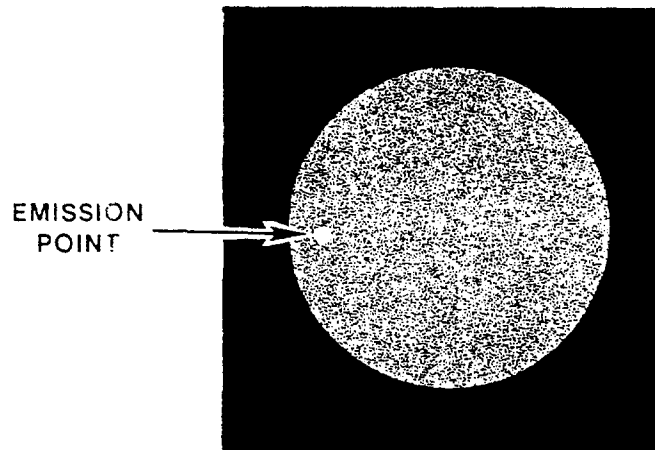

Figure 2-3. Emission Points .
d. **Emission Point.** A steady or fluctuating pinpoint of bright light in the image area that does not go away or is faintly visible when all light is blocked from the objective lens of the monocular (fig 2-3). The position of an emission point within the same image area does not move. Not all emission points makes an image intensifier rejectable. Emission points are acceptable if they do not interfere with the ability to perform the mission. If found to be unacceptable, refer to a higher maintenance level.